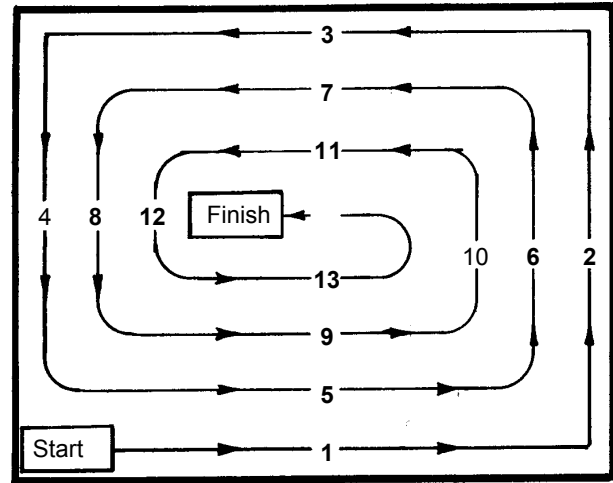

Figure 15a
**NOTE:** By properly planning the cleaning pattern, a minimum number of turns will need to be made. See figures 15a and 15b.